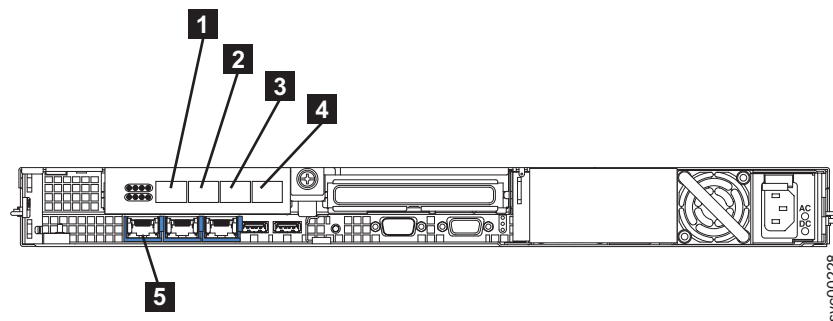

Figure 27. SAN Volume Controller 2145-8G4 Ethernet and fibre-channel connectors
1. Connect the Ethernet cable to Ethernet port 1 **5** in Figure 27.